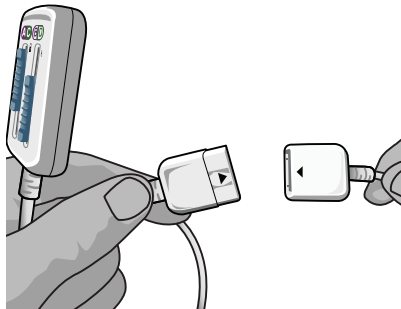

Figure 8: External Trial Stimulator 2 and 2x8 OR Cable and Extension
- Attach the OR Cable Extension to the OR Cable (Figure 8).